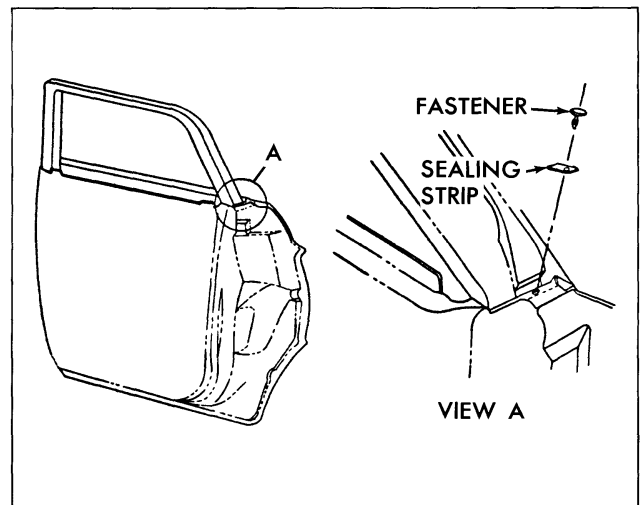

Fig. 3-15 Rear Door Lock Pillar Sealing Strip Fastener
1. Remove the single snap fastener securing sealing strip to rear door lock pillar (at belt) and remove strip (Fig. 3-15).